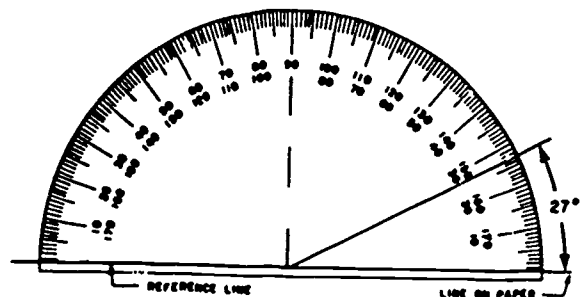

Figure 2-17. Using a protractor.
**Protractor.** A protractor is used for setting off and measuring angles, including those obtained by using the T-square and triangles. Ordinarily, a transparent plastic protractor 6 inches wide is sufficient. Such a protractor is shown in figure 2-17. Notice that the circumference is marked twice with a scale running from  $0^\circ$  through  $180^\circ$  in each direction. Having  $0^\circ$  starting points at opposite ends of the diameter makes the protractor easier to use and read in any position on the drawing board.